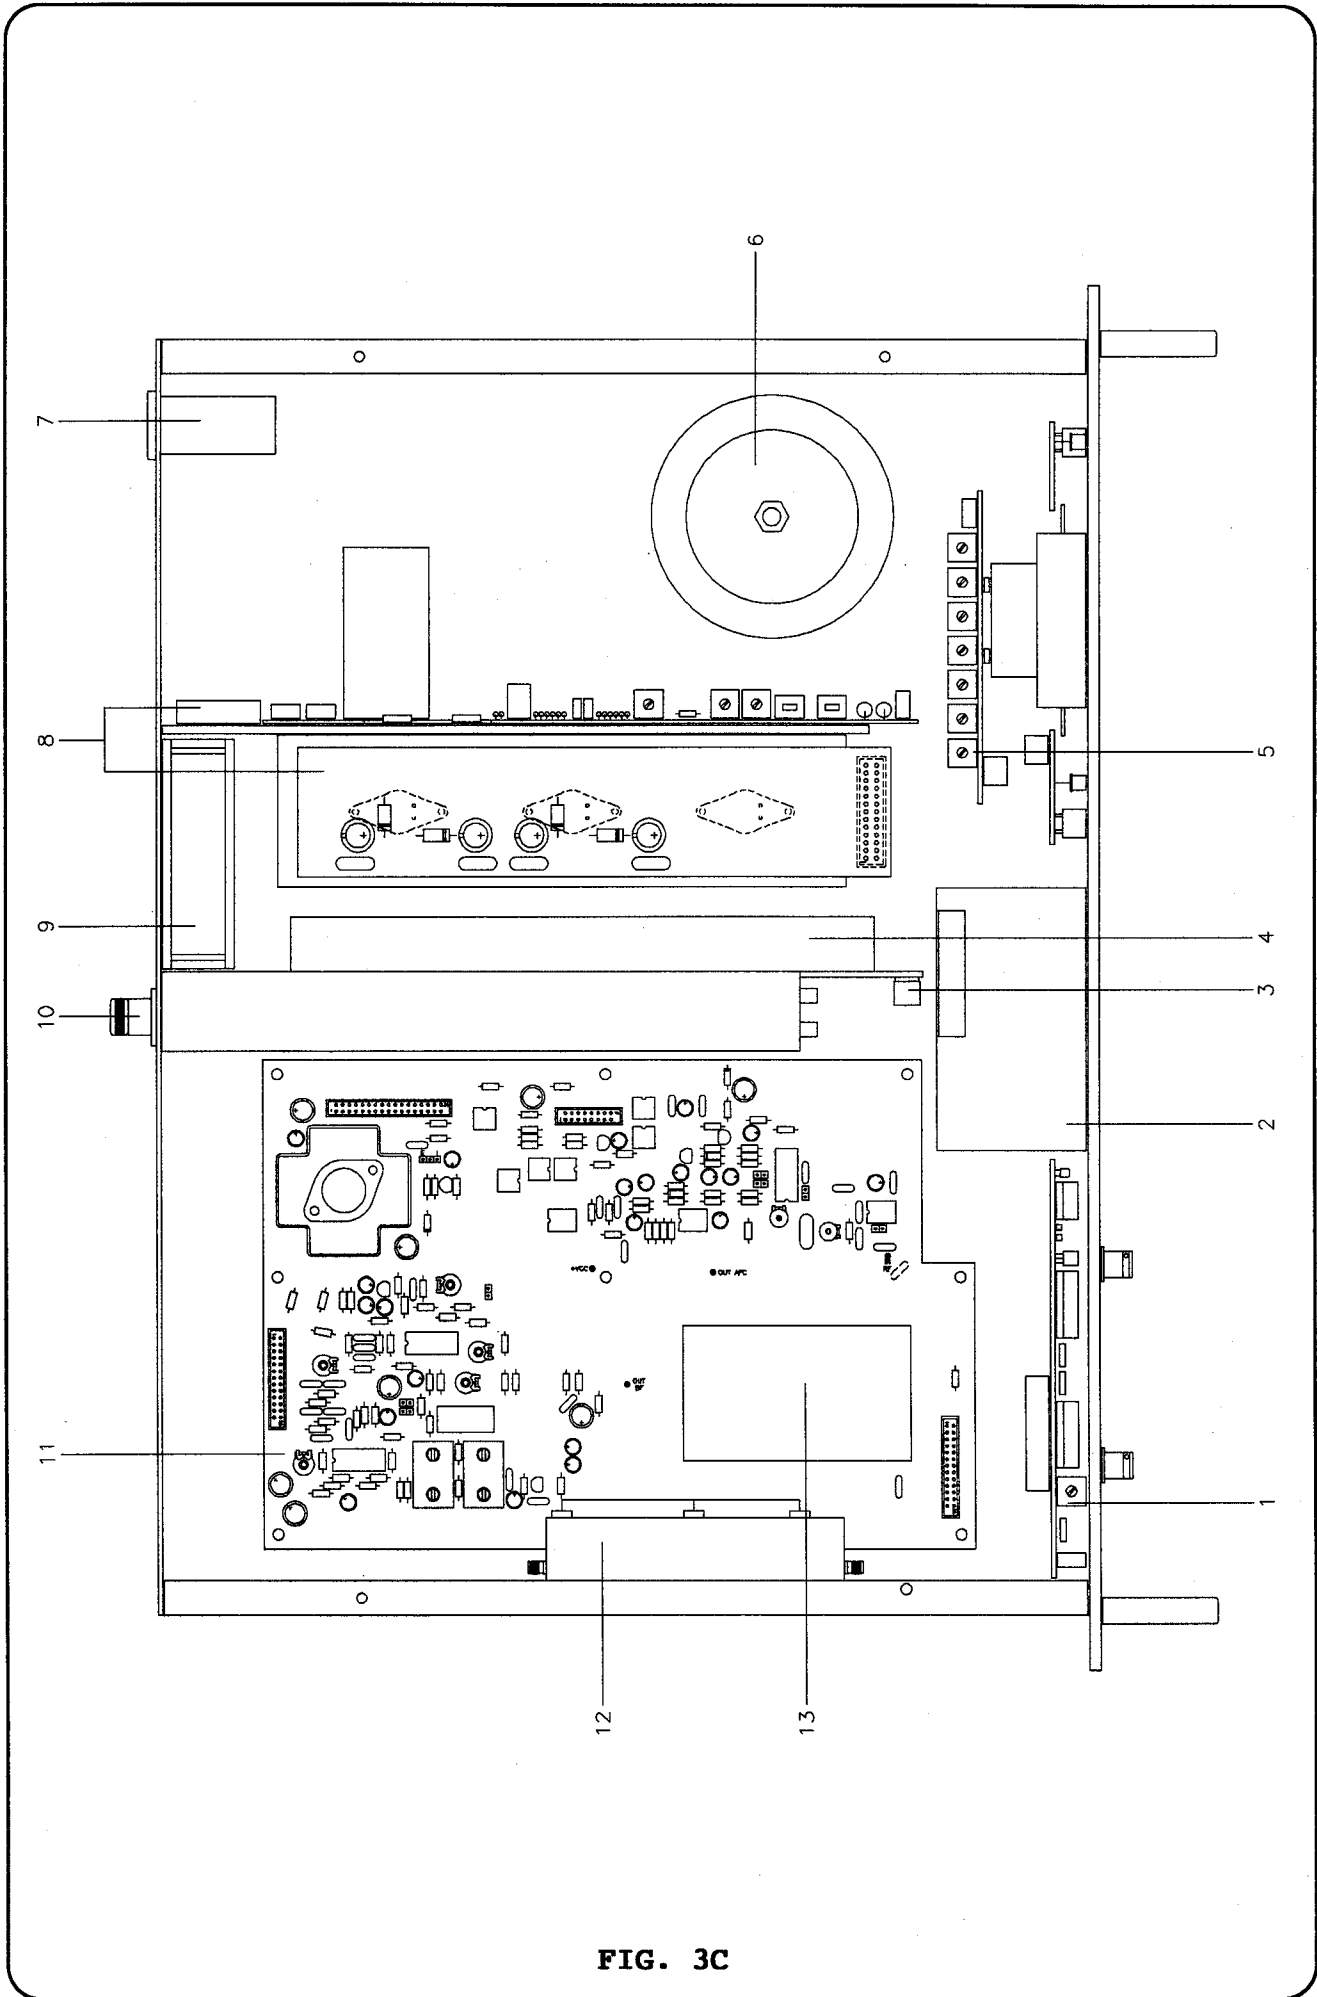

FIG. 3C
**TOP VIEW DESCRIPTION OF PTRL-NV/2/HP (Fig.3C)**